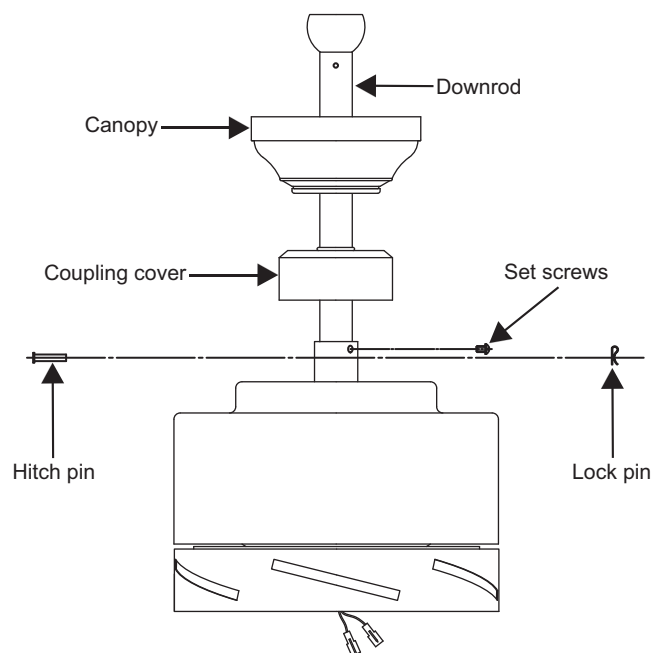

Figure 6
**Step 4.** Route wires exiting from the top of the fan motor through the coupling cover, canopy and then through the ball/downrod. (Fig. 6)
**Step 5.** Align the holes at the bottom of the downrod with the holes in the collar on top of the motor housing (Fig.6). Carefully insert the hitch pin through the holes in the collar and downrod. Be careful not to jam the pin against the wiring inside the downrod. Insert the locking pin through the hole near the end of the hitch pin until it snaps into its locked position, as noted in the circle inset of Fig. 6.
**Step 6.** Tighten two set screws on top of the fan motor firmly. (Fig. 6)